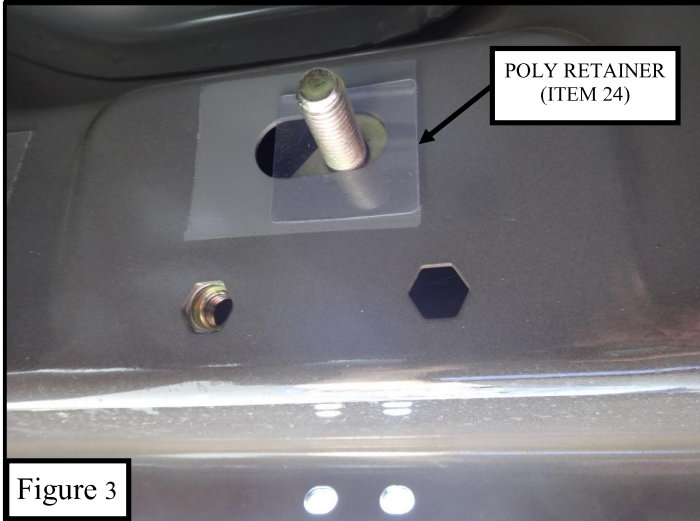

Figure 3
- Locate three mount existing locations at each side, and remove tape covers **Figure 3.**
- Starting at the drivers side, locate the front mount location and place a nut plate (item 22) by inserting it through the oval hole and use 1 poly retainer (item 23) to hold the nut plate in place during bracket installation **Figure 3.**